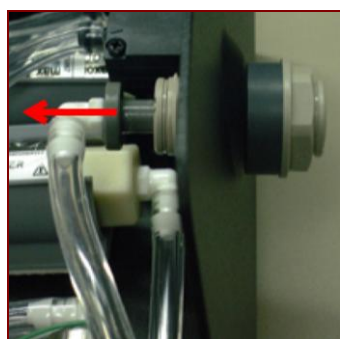

Figure 1
- Remove the two (2) side screws from the intake end of the instrument and open the case.
- Gently pull the inner portion of the intake out of the intake port in the direction of the arrow, as shown in Figure 1 below.